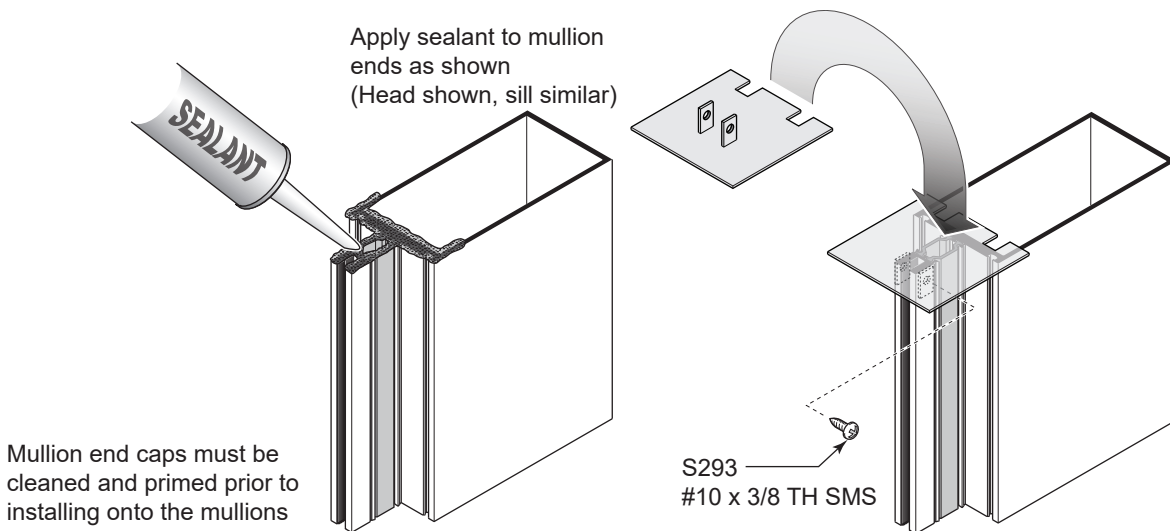
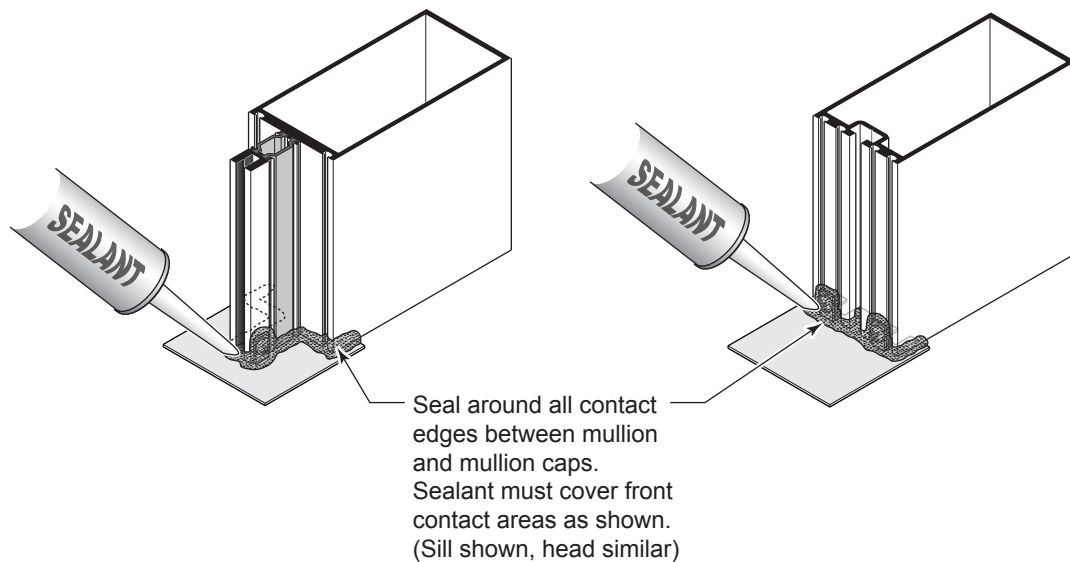

Fig. 35.1
Fig. 35.2
A. Install top and bottom end caps on mullions. Tool sealant. See **Fig. 35.1** and **Fig. 35.2**.
- When P4633 polyamide and PTB120 thermal pressure plate is used, install the P4607 PVC pocket filler tube into perimeter members. See **Fig. 35.1** through **Fig. 35.4**.